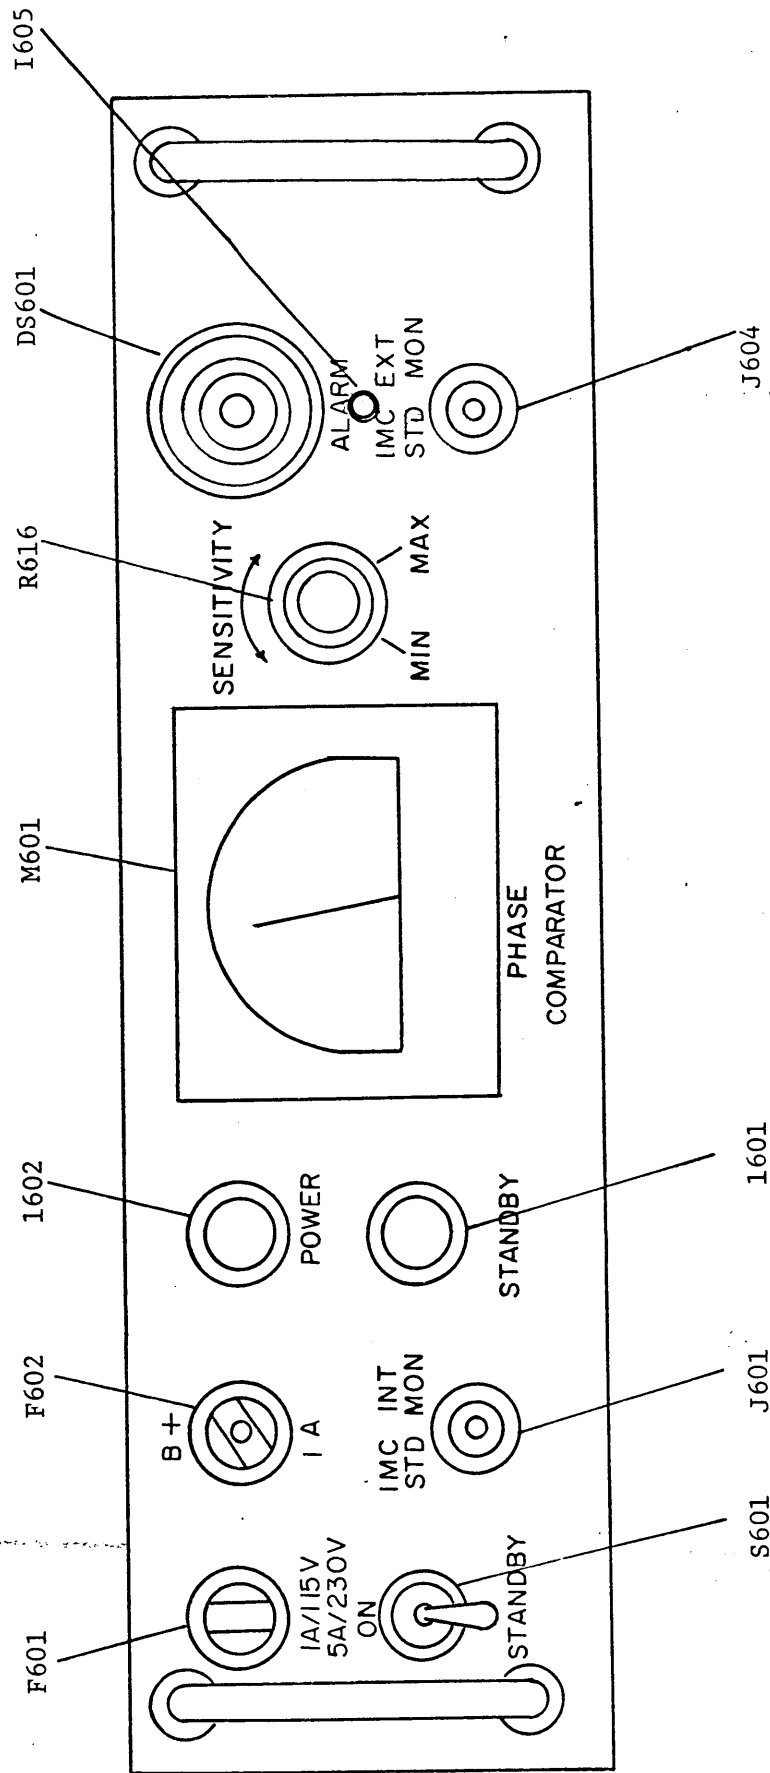
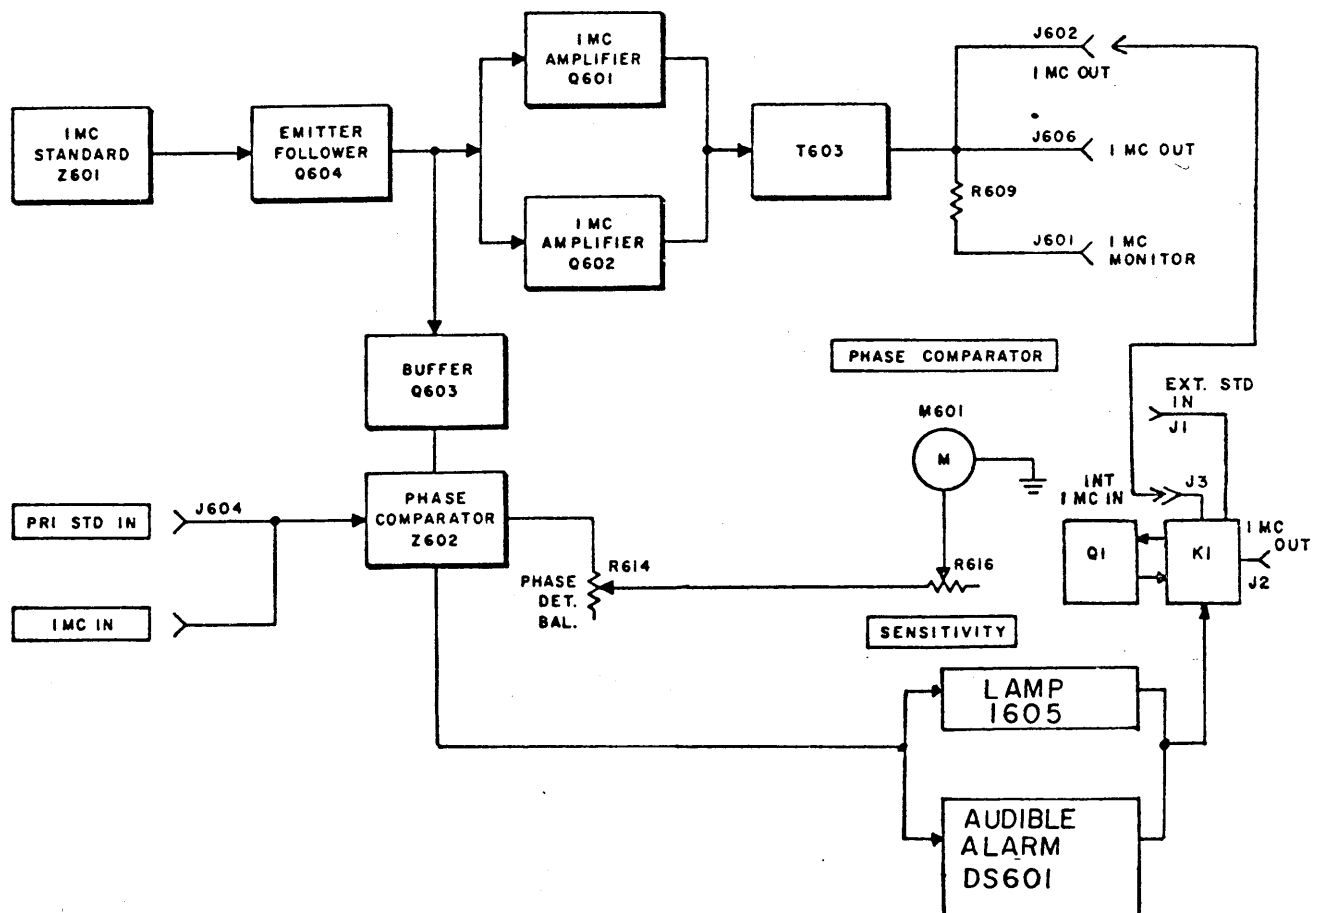

Figure 3-1. Model CSS-3B, Front Panel View
Figure 4-1. Model CSS-3B, Block Diagram
- (6) Remove Figure 3-1 - replace with new Figure 3-1. Front panel line drawing of CSS-3B provided with addendum.
- (7) At the end of paragraph 4-1, page 4-0, add the following, An Automatic change over relay automatically connects the external frequency standard to associated equipment if the internal frequency standard fails.
- (8) Remove Figure 4-1 - replace with revised Figure 4-1 provided with addendum.